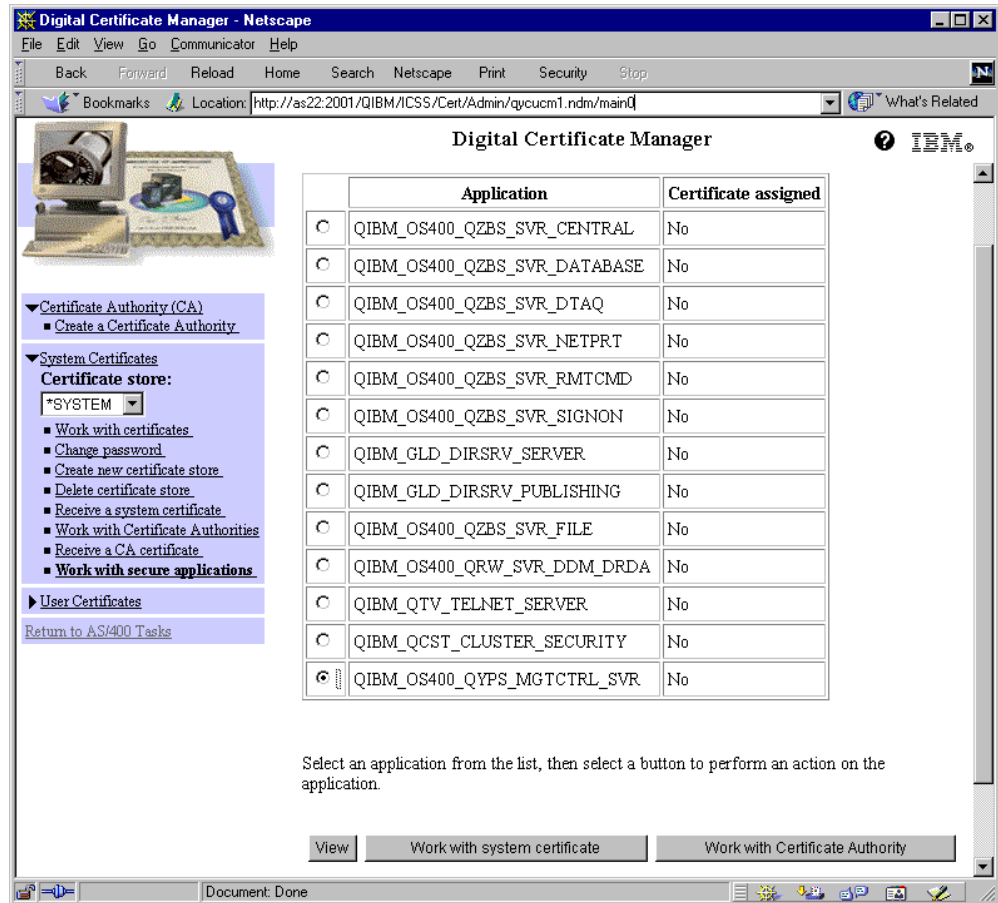

Figure 166. Select certificate assigned application
1. Click on **Work with secure applications** (Figure 166 on page 199).